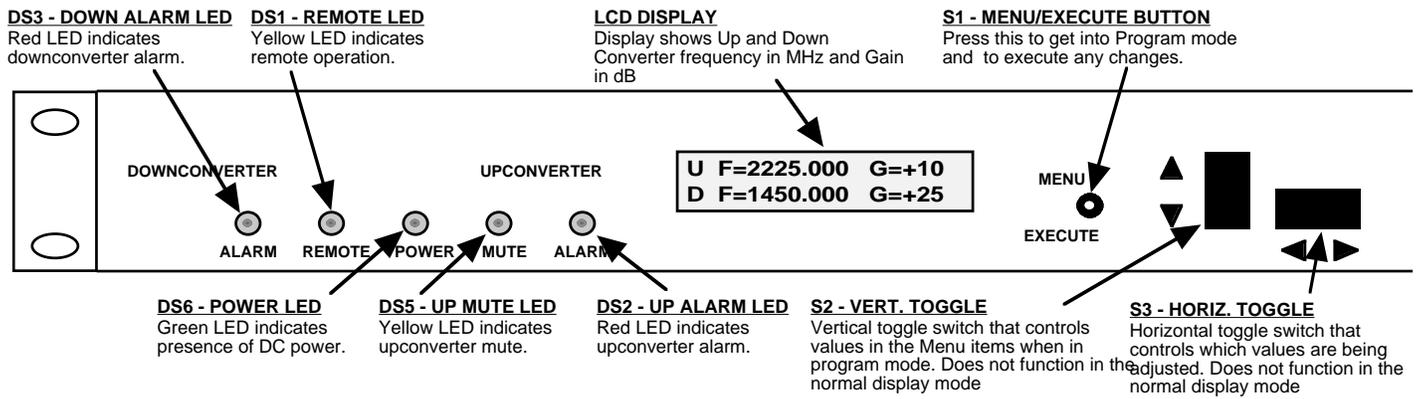

Figure 2.2 Model 2017-35 Front Panel Controls and Indicators
- 8.) Be sure DS6 (green, DC Power) is on and DS2 (red, Alarm) is off (Figure 2.2).
- 7.) Be sure DS6 (green, DC Power) is on and DS2 (red, Alarm) is off (Figure 2.2).
Alarm indications appear on the LEDs (see figure 2.2).